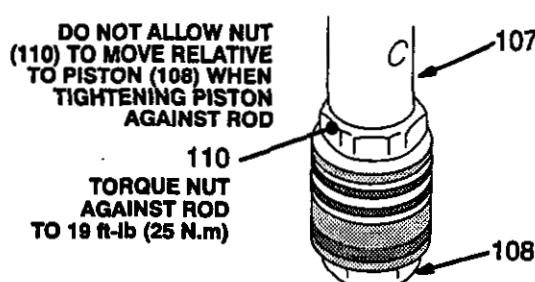

Fig 23
7. Place the flats of the rod (107) in a vise.
8. CAREFULLY tighten the nut (110) against the piston rod to 19 ft-lb (25 N.m). See Fig 23.